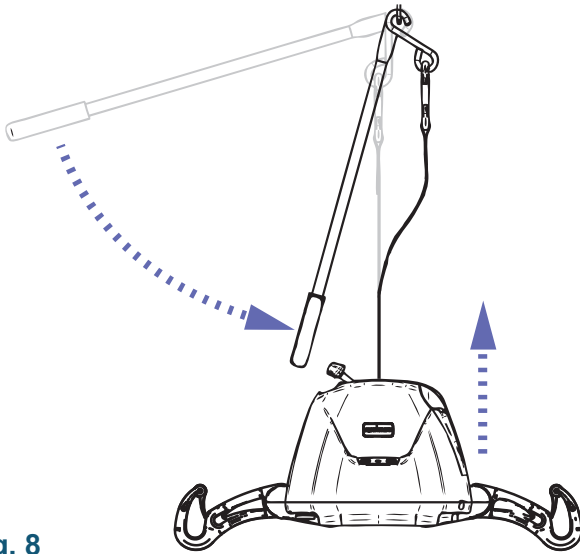

Fig. 8
2. Once the “Reacher” is vertical, grab the handle and unhook it from the trolley. See Fig. 8.